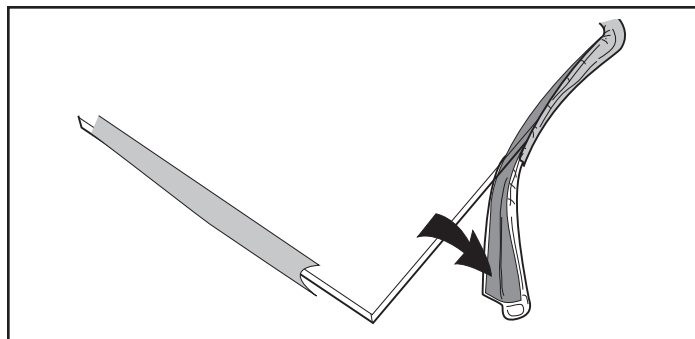

Figure 5.3 - Wrap the gasket material around the outside edge of the glass.
3. Starting on a long edge, remove about 6" of the protective paper strip and apply the flat adhesive face of the gasket around the outside-facing edge of the panel. Continue around the panel, applying about 6" at a time and being careful to not stretch the material. Do not overlap the gasket ends, Figure 5.3.